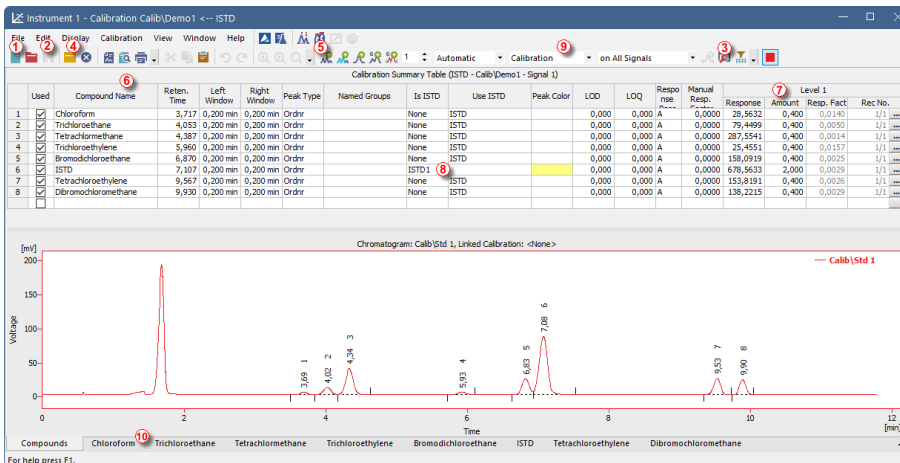

Fig. 17: The Calibration window - loaded standard
- To add color to a peak permanently, click the *View* button  in the right side of the *Results* tab. This will get you to the linked calibration file. There, in the *Calibration Summary Table*, find the *Peak Color* column (see **Fig. 17** on pg. **28**). In the row corresponding to the peak to be colored, select the desired color by clicking in the field and selecting the  icon. Pick the desired color and click *OK*. You will be asked to save the changes upon closing the *Calibration* window. Return to the *Chromatogram* window by using the  icon in the menu bar. The selected peak is now colored according to the color selected in the *Calibration* window.
- Use the *Open Standard*  icon (yellow) ④ to open the STD 1.PRM data file. The lower part of the *Calibration* window now displays the chromatogram of the calibration standard.
- Use the *Add All*  icon (blue) ⑤ to move all identified peaks to the Calibration Summary Table. The Table appears in the *Calibration* window, ready to be completed as shown on **Fig. 17** on pg. 28.
- As demonstrated in the Calibration Summary Table and the Chromatogram, individual peaks are now identified according to their retention times only. To label the peaks, click and edit the fields in the *Compound Name* column ⑥ to the names shown on **Fig. 17** on pg. 28. You may also set the color of a specific peak in the *Peak Color* column, for example, try to set the ISTD peak color to yellow. Note that the changes made will not immediately affect the current chromatogram.
- Fill the *Amount* column ⑦ with the concentration of the particular compounds. In this standard mixture, all compounds except for the peak number 6 (ISTD) have the amount of 0.4.
- Peak number 6 is marked as the ISTD peak. In the *Is ISTD* column change its type to ISTD1 ⑧ and then set its amount in the *Amount* column to 2.